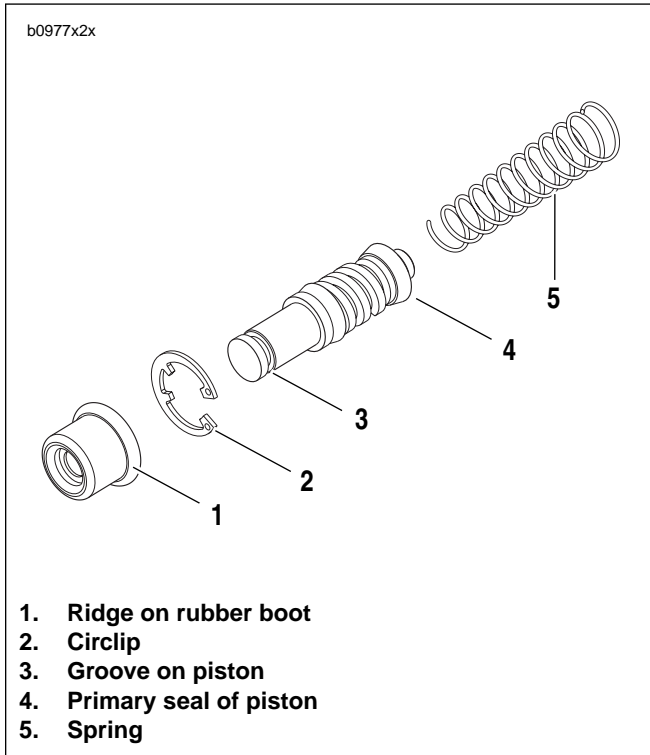

Figure 2-40. Front Master Cylinder Piston Assembly
2. See Figure 2-40. Assemble **new** piston components placing small end of spring (5) behind primary seal of piston (4).
6. See Figure 2-40. Install ridge on boot (1) into groove on piston (3).